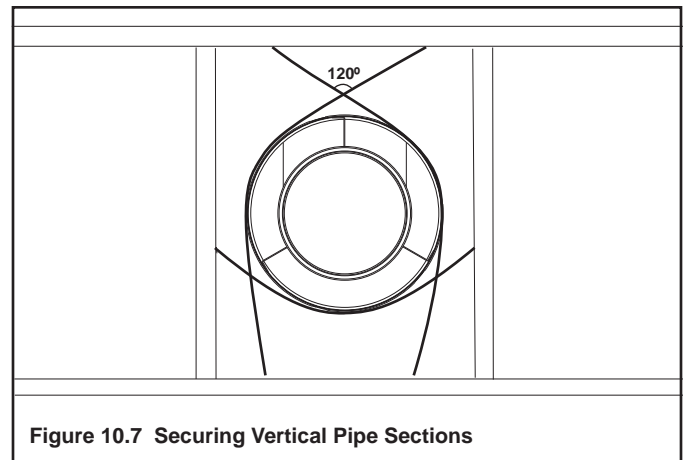

Figure 10.7 Securing Vertical Pipe Sections
- Secure the pipe and slip section with two screws no longer than 1/2 in. (13 mm), using the pilot holes in the slip section. See Figure 10.7.
- Vent supports or plumbers strap (spaced 120° apart) may be used to support vent sections. See Figures 10.7 and 10.8.